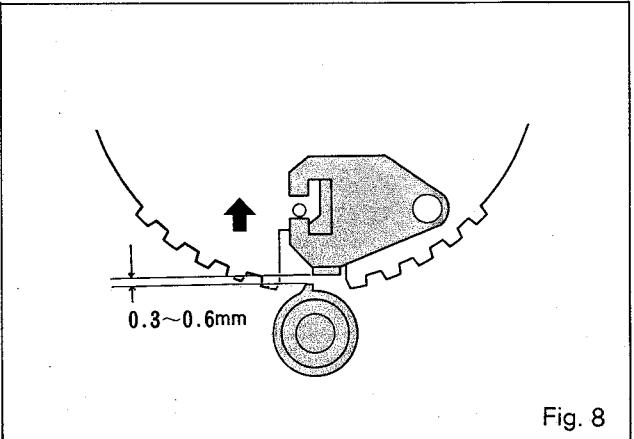

Fig. 8
- (2) Push ratchets A and BL attached to the drive gear as far as possible in the direction of the arrow shown in Fig. 8.
- (3) Move the motor so that the gap between the turntable gear and ratchet A becomes as shown in Fig. 8. and tighten the screws.
- No: Check to see the clearance between gear of motor shaft and ratchet is reasonable (Fig. 8).